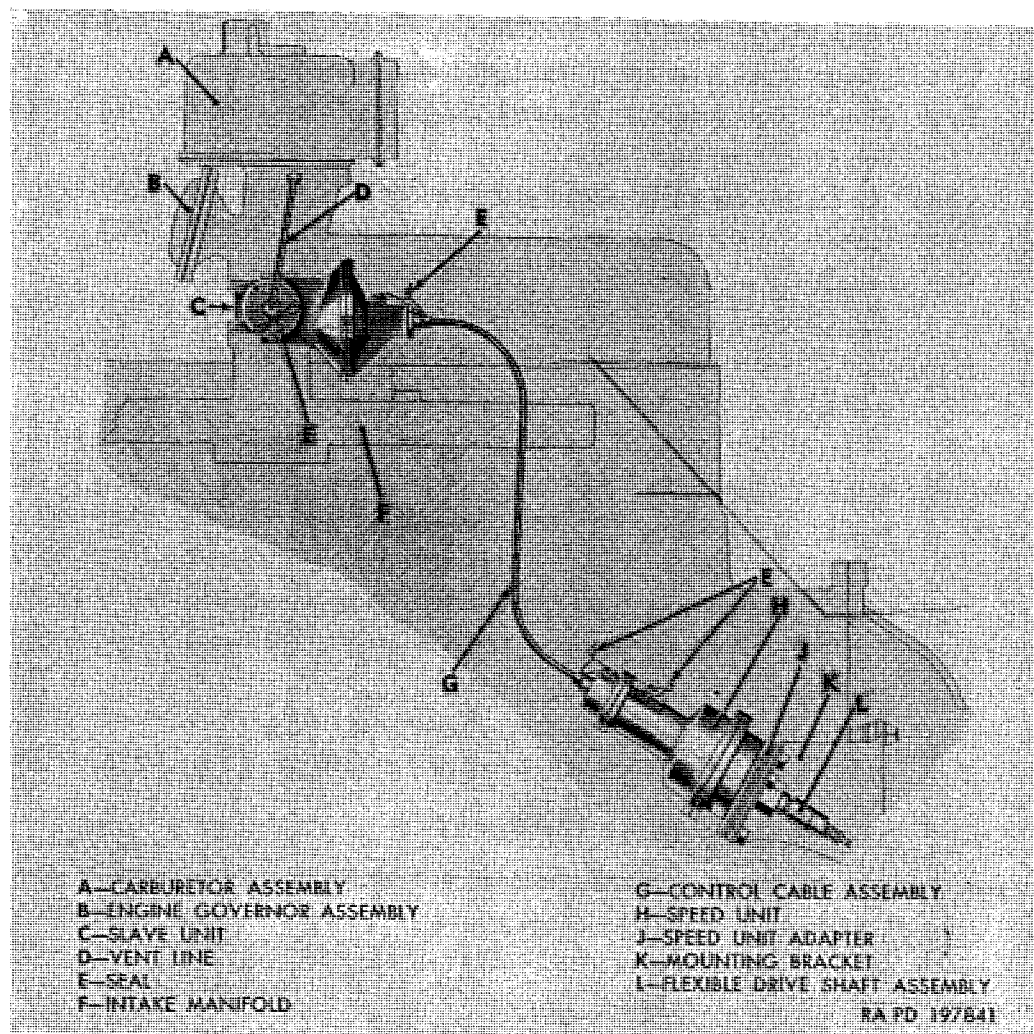

Figure 126. Arrangement of power-take-off governor units and lines.
(fig. 126)
c. Seals. Governor units are adjusted and sealed, and seals must be removed only when necessary to disconnect lines when replacing carburetor or distributor. Governor seal locations are shown in figure 126.